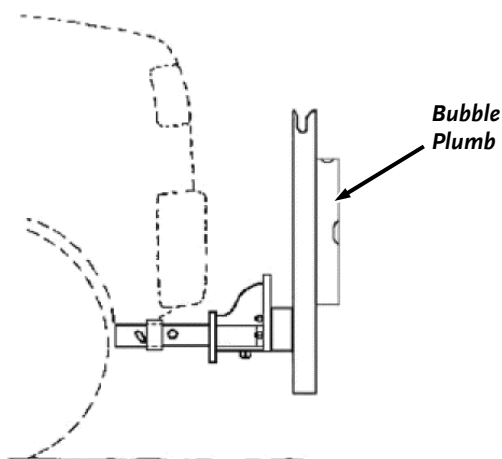

Figure 4
4. Check push frame for vertical plumb (**Figure 4**). If plumb, tighten 4 bolts now and go to step 5. If not plumb, refer to the following shim procedure.